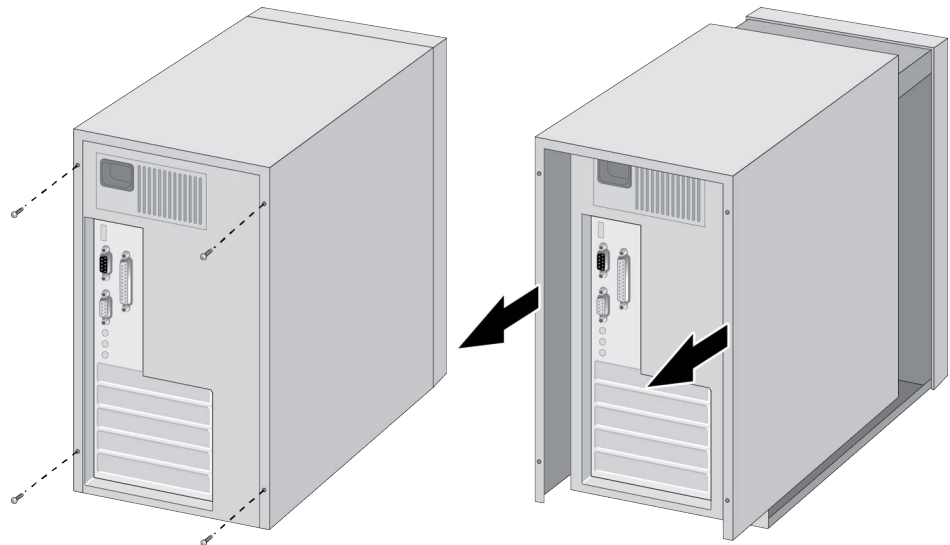

Figure 12. Removing the PC Cover
2. Remove the system cover. See Figure 12.